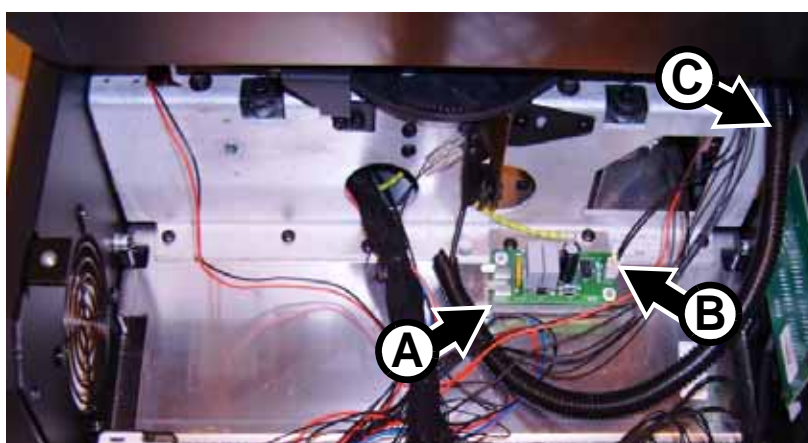

Figure 23
25. See Figure 23. Fasten the remote lamp on/off opto-switch **A** to the base as shown, re-using the original 2 screws and re-installing the ground lead on the screw where it was originally located. A pair of leads with connectors is supplied installed on the remote lamp on/off opto-switch. Both connectors are marked **LA**. See Figure 23. One connector is installed at **B** on the remote lamp on/off opto-switch PCB. Route the two leads alongside the ballast wiring harness **C** over to the ballast